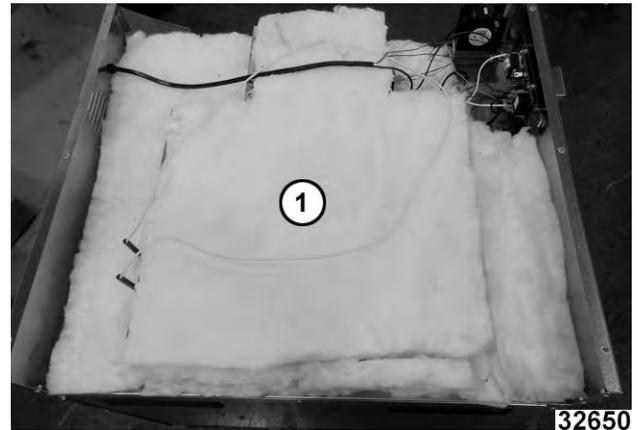

Fig. 5
2. Remove insulation (1, Fig. 5).